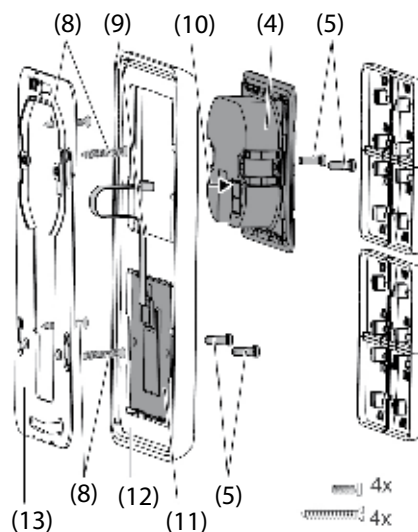

Bild2: Installation with expansion module
- Snap adapter frame (3) in the right orientation from the front onto the module (8) (Figure 2). Observe the label „TOP“.
When using the push-button sensor expansion module (Figure 2): vertical installation is preferred. Use the double supporting ring (13). For installation to a flush-mounted box only, countersink the lower screws in the wall, e.g. with bore $\varnothing 6 \times 10$ mm. Use supporting ring as template.